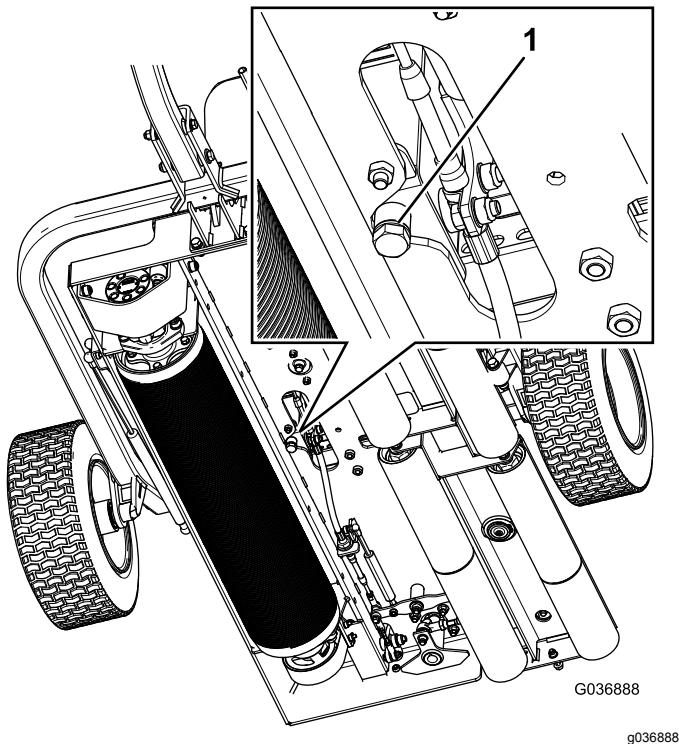

Figure 36
1. Place a drain pan under the hydraulic-tank drain plug (Figure 36).
2. Remove the drain plug from the bottom of the tank (Figure 36).